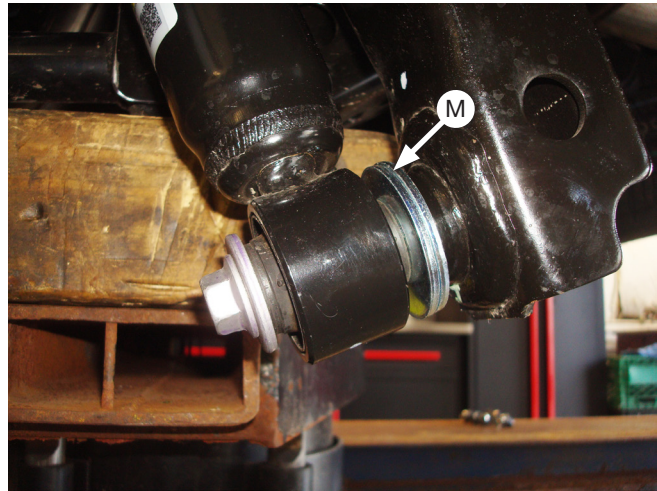

Fig. 5
4. Remove the lower shock bolts and install two large 3/4" flat washers (M) onto the shock mounts (Fig. 5). Re-install the shock and torque the lower shock mount bolts to 72 lb.-ft. (96Nm).